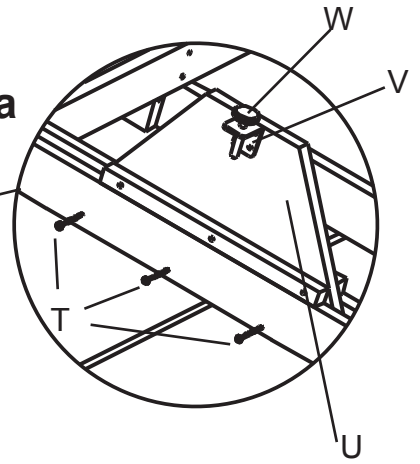

Fig. 7
7. On each inner Pair of Trestles (C & D), place a Foot Assembly (U) between the two middle trestles as shown in Figure 7. Attach with three #8 x 2" Black Screws (T) as shown in Figure 7a.